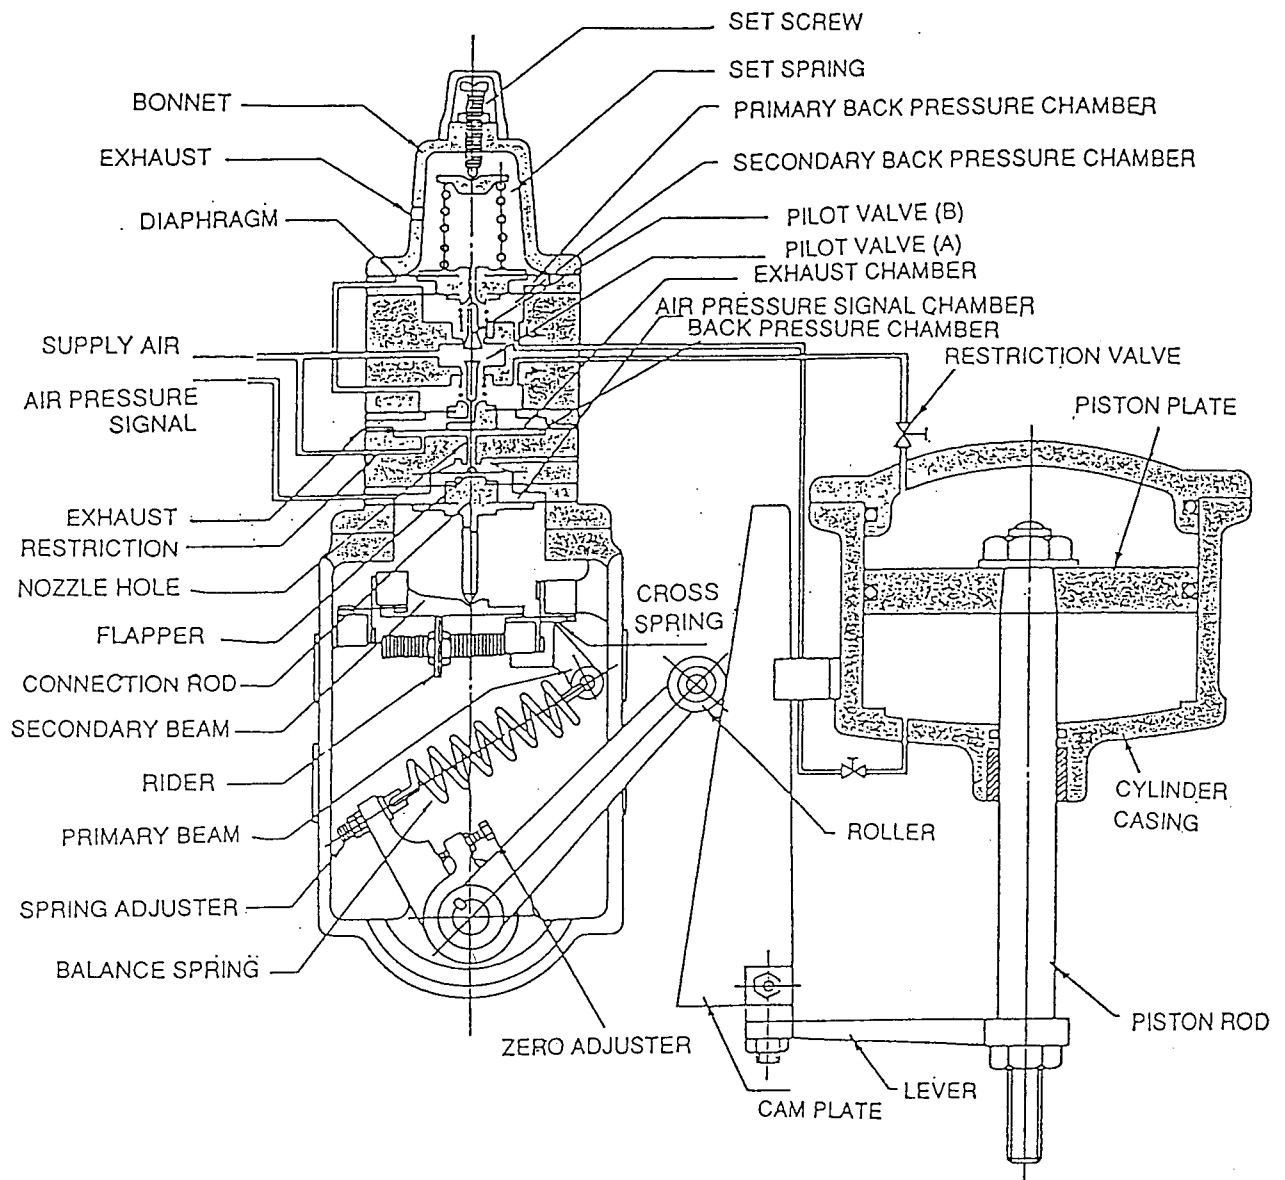

Figure 4. Operational diagram or G-O-Motor and G-O-Pilot Valve
G-O-Pilot Valve (See Figure 4.)
1.2 Operation (See Figure 4.)